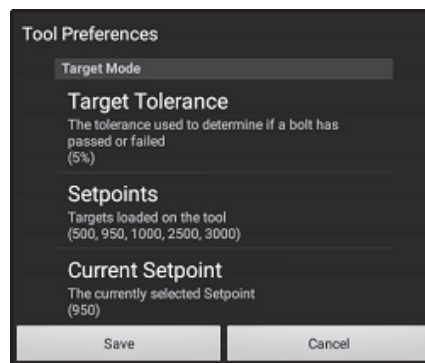

Figure 4-5: Setpoints Preferences
**Tool Setpoints Preferences** (Figure 4-5)